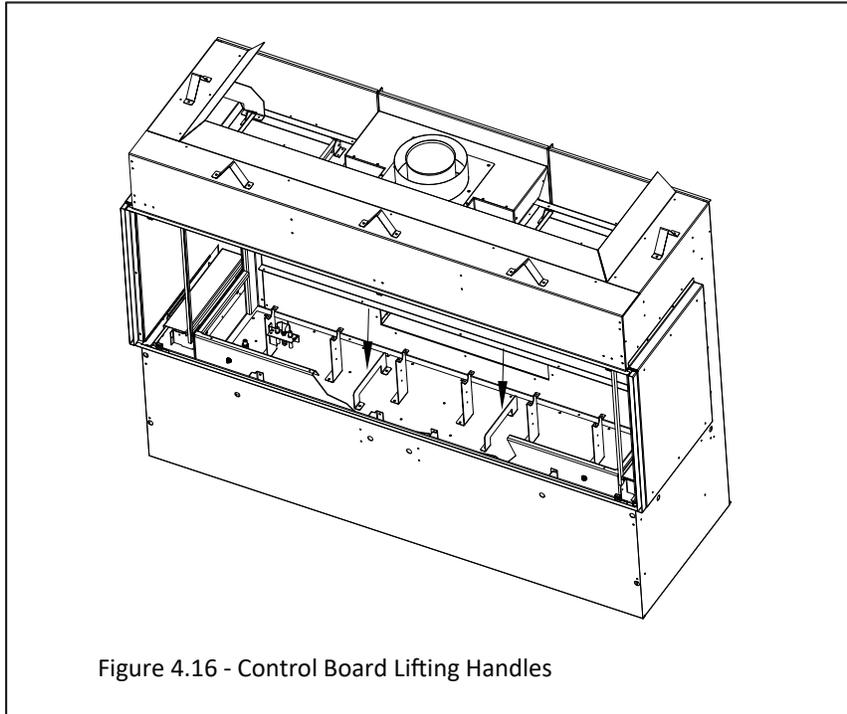
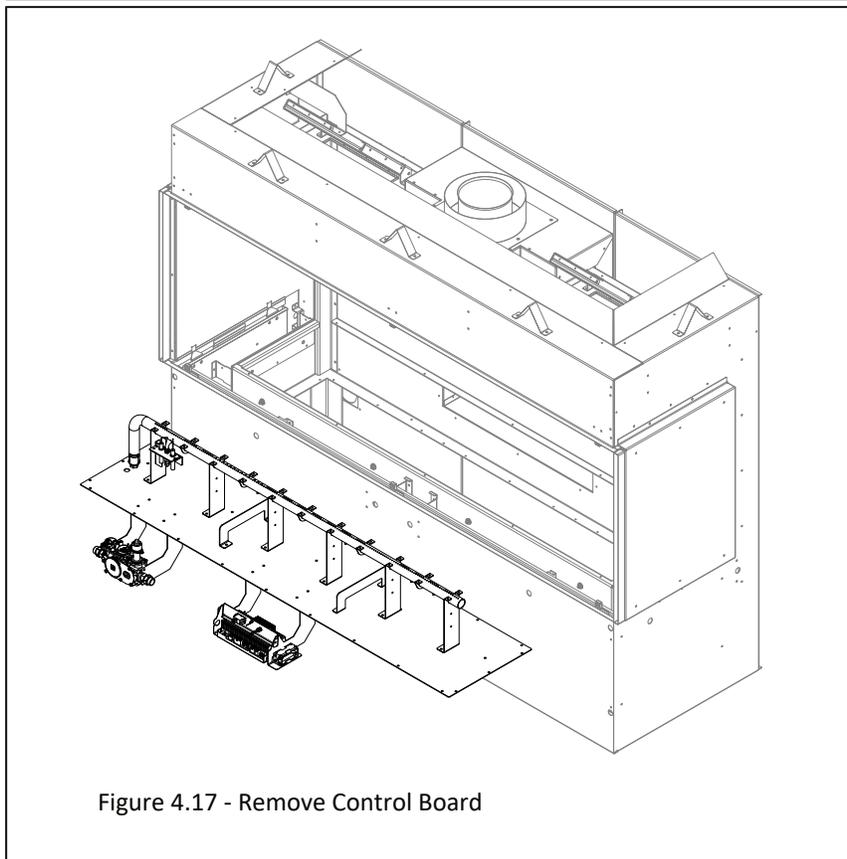

Figure 4.16 - Control Board Lifting Handles
Figure 4.17 - Remove Control Board
5. Remove the (24) sheet metal screws securing the control board to the bottom of the firebox. Figure 4.17.
6. Start by locating the two lifting handles near the center of the control board. Figure 4.16. When pulling the control board up and out you will have to tilt the control board towards you so the valve and module pivot into the opening. Lift the control board up to gain access to under the control board. Figure 4.17.